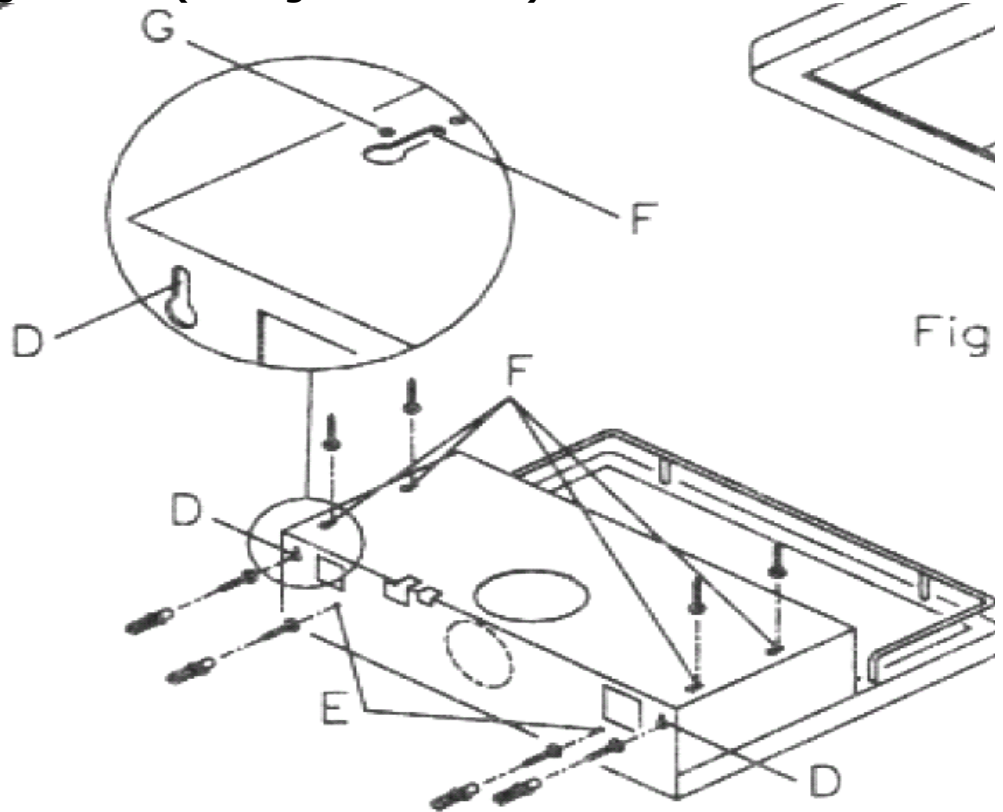

Fig. 5
- 2) Position the hood against the wall and mark the position of the support holes 'D' and the anchoring holes 'E' (see Figure 5 - below).